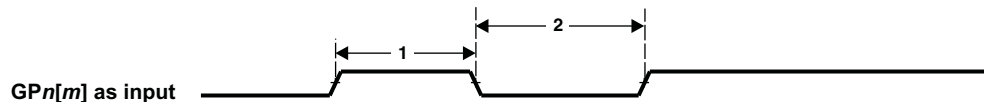

**Figure 6-11. GPIO External Interrupt Timing**
**Table 6-13. Timing Requirements for External Interrupts(1)** (see Figure 6-11)